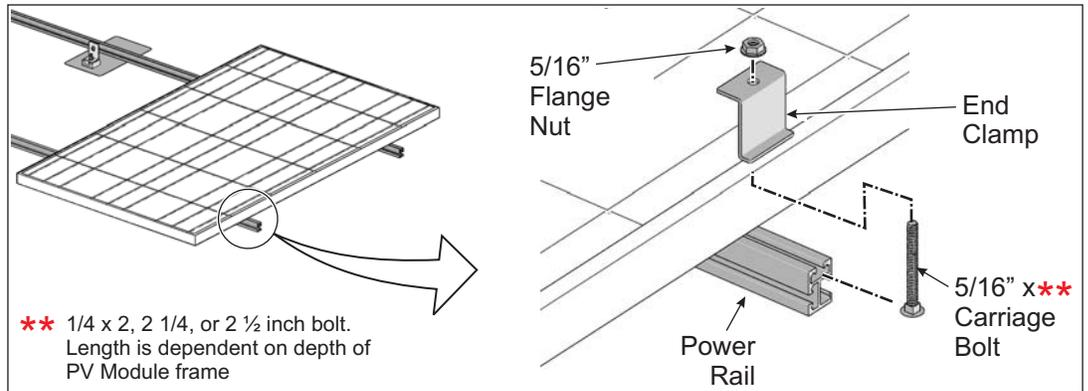

Figure 3-2: Installing PV Modules using Standard End-Clamp
- B2. For use with “**Standard End Clamps**”. Insert one 5/16” x 2, 2 1/4 or 2 1/2” bolt into the top slot of the Power Rail. Push the bolt until flush with edge of module frame. Position end clamp with hole facing upwards and center hole over bolt. Seat end clamp over bolt flush with module frame. Thread 5/16" flange nut onto clamp and tighten. When desired alignment is obtained, tighten the nut and end clamp. **Torque End Clamps to 75-80 in.-lbs.** (figure 3-2)
B3. For use with “**RAD Hardware**” the process is much the same as in step B2 above, the difference is RAD bolts can be inserted anywhere along the run of Power Rail, not just the ends of the rail as shown in Figure 3-2 above.